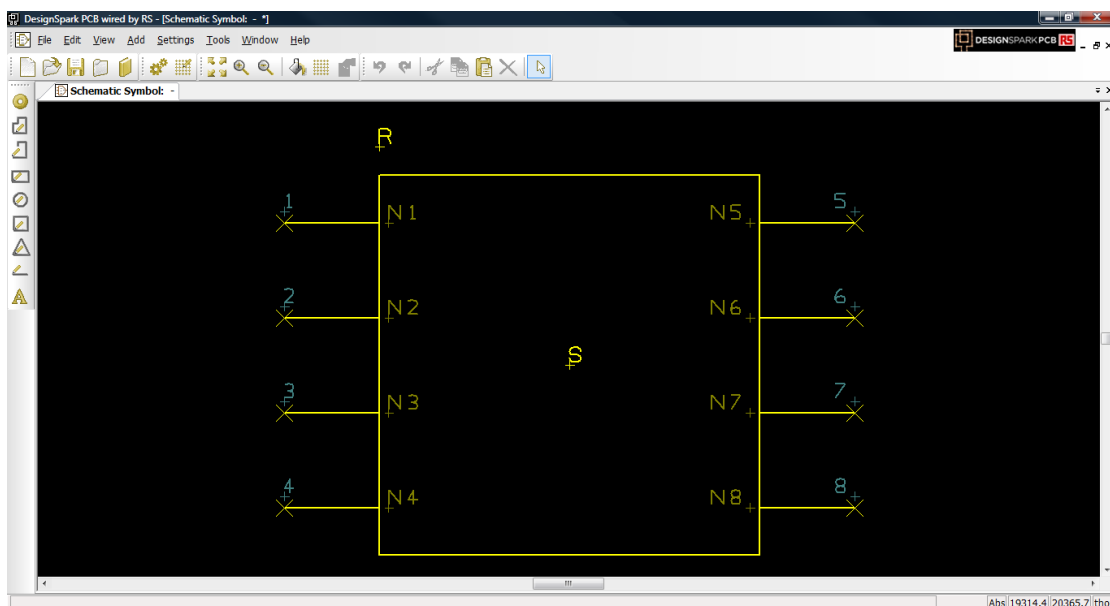

Figure 6-32: Wizard – Schematic Symbol
10. Select the “Finish” button when done, which will produce the schematic as shown in Figure 6-32.